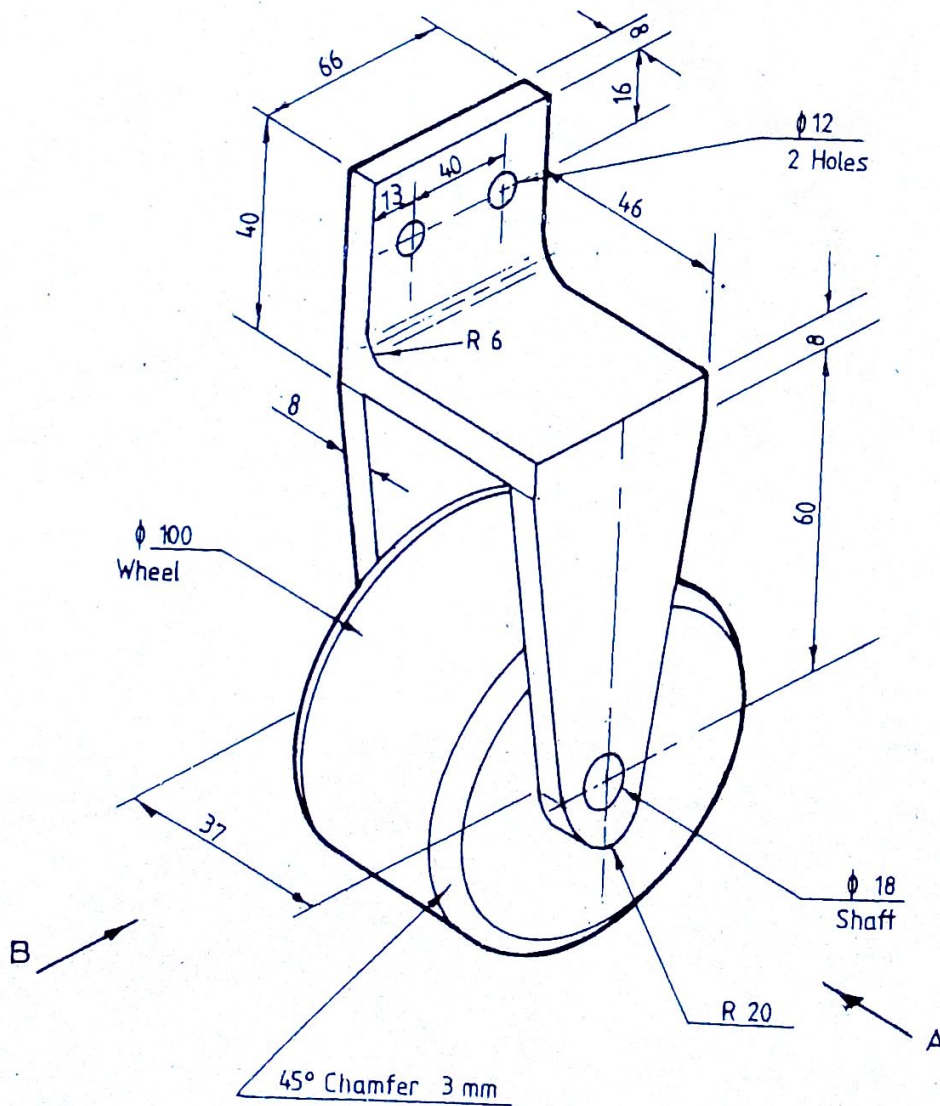

Fig. 4
13. Figure 4 shows an isometric drawing of a castor wheel. Draw full size the following view in first angle orthographic projection. (15marks)